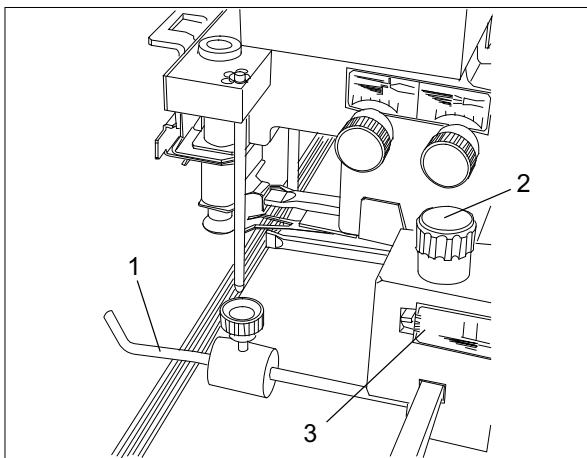

Fig. 27 Automatic height setting mechanism
The height setting is detected by a sensor which is located in the left hold-down rod (Fig. 27/1).
2. You can change the gap between the lifting suckers and the paper stack by turning an adjustment screw (Fig. 27/2). A scale (Fig. 27/3) facilitates the setting.
Turn the adjustment screw (Fig. 27/2) clockwise:
Turn the adjustment screw (Fig. 27/2) counter-clockwise: Pointer moves to the minus range „-“